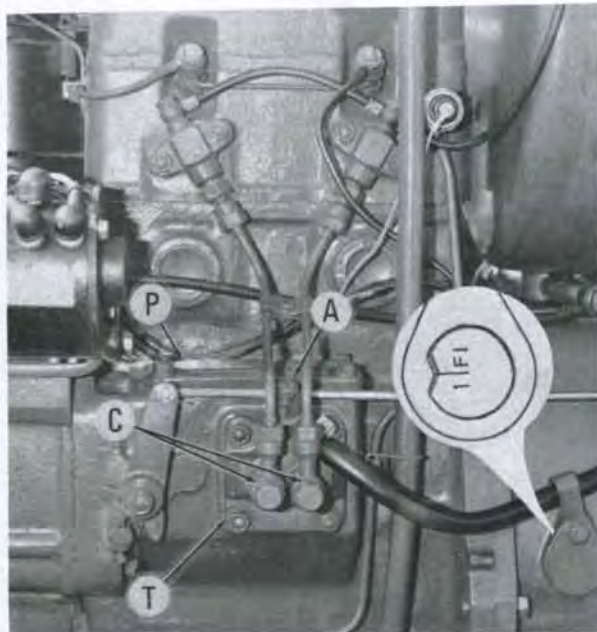

Fig. 50—Installed view of injection pump on Model L210. Inset shows flywheel timing mark for number 1 piston firing position.
Close bleed screw on filter housing while fuel is flowing; open bleed screw on injection pump and allow fuel to flow until air bubbles disappear, then close bleed screw. Injection pump bleed screw is shown at (A—Fig. 50) for Model L210; at (B—Fig. 59) for Model L260; and at (B—Fig. 52) for other models.
55. TIMING TO ENGINE. Start of injection should occur at 24° BTDC, or when "1 FI" and "2 FI" flywheel timing marks align as shown in inset, Fig. 50. To check timing, disconnect pressure lines (C). Make sure fuel system is properly bled. Pull decompressor knob out
56. REMOVE AND REINSTALL. To remove injection pump, first shut off fuel and disconnect fuel supply line at pump. Remove high pressure lines leading to injectors. Remove top access plate (P—Fig. 50). Disconnect link (L—Fig. 56) from injection pump; then unbolt and lift out pump.